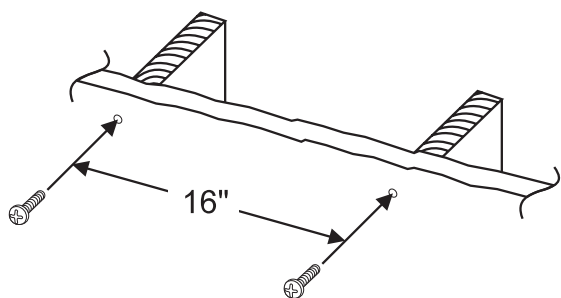

fig. 4
3. Using the supplied mounting template, mark the two screw locations, 16 inches apart and centered on the stud(s) - (see Fig. 4). Use the level to ensure that the screw locations are lined up precisely.